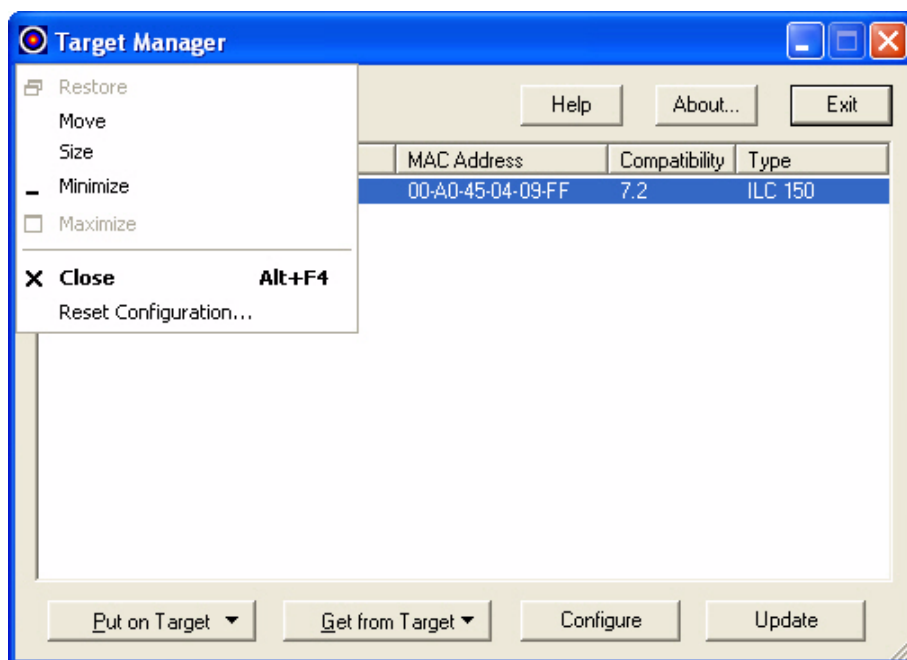

Figure 2-32 Click the icon in the title bar to display the System menu.
1. With Target Manager open, click the icon on the left side of the title bar to display the System menu (see Figure 2-32).